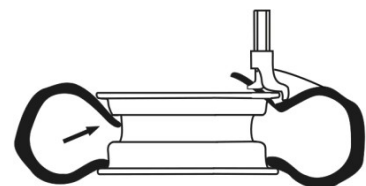

Fig. 23
- If there is an inner tube, insert it now, then repeat previously mentioned steps for the other side of the tire until the tire is completely in the rim (fig.23).